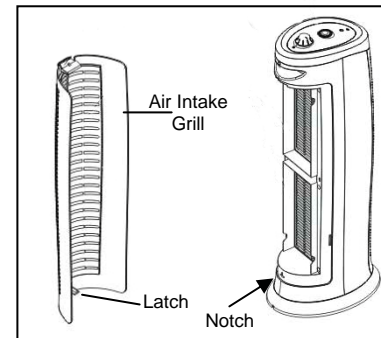

Fig. 2
3. To replace the air intake grill, place the latch that is on the bottom of the air intake grill into the notch on the base of the unit and push in from the bottom until it locks into place. (Fig. 2 & 3)